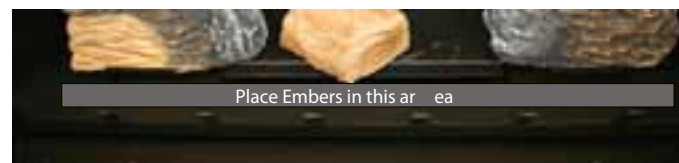

Figure 27f. Placing Embers.
Step 8. Place the Right Center log as shown using the notch in the Top Right log as a guide, **figure 27f**.
Step 9. Place the Embers as shown in **figure 27f**.